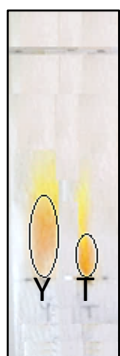

Figure 14. Yellow dye (Y) and turmeric powder dissolved in oil (T) in 1:1 isopropanol:water eluent.
- If we were to now spot it on a TLC sheet next to the commercial yellow dye and run the 1:1 isopropanol:water mobile phase up the sheet, the curcumin in the turmeric powder spot (Figure 14, spot “T” = turmeric powder) will not travel as far up as the curcumin in the commercial yellow dye spot (Figure 14, spot “Y” = yellow dye) – notice the height of the **orange** spot – despite being the same chemical. How is this possible?